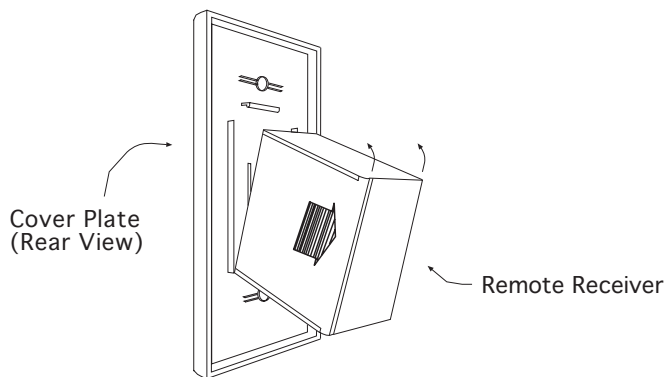

Fig. 12. Wall plate to Receiver
**Next**, attach wall mount cover plate to receiver box (Fig. 12):